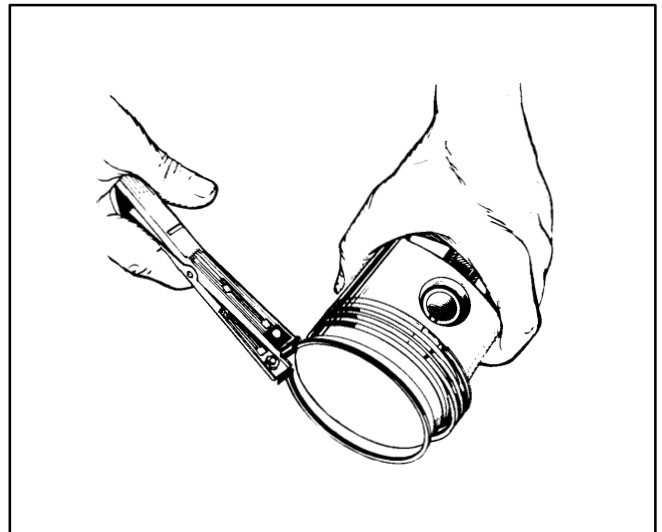

FIGURE 42. PISTON RING SPREADER
5. The pistons are fitted with two compression rings and one oil control ring. Remove these rings from the piston using a piston ring spreader (Figure 42).